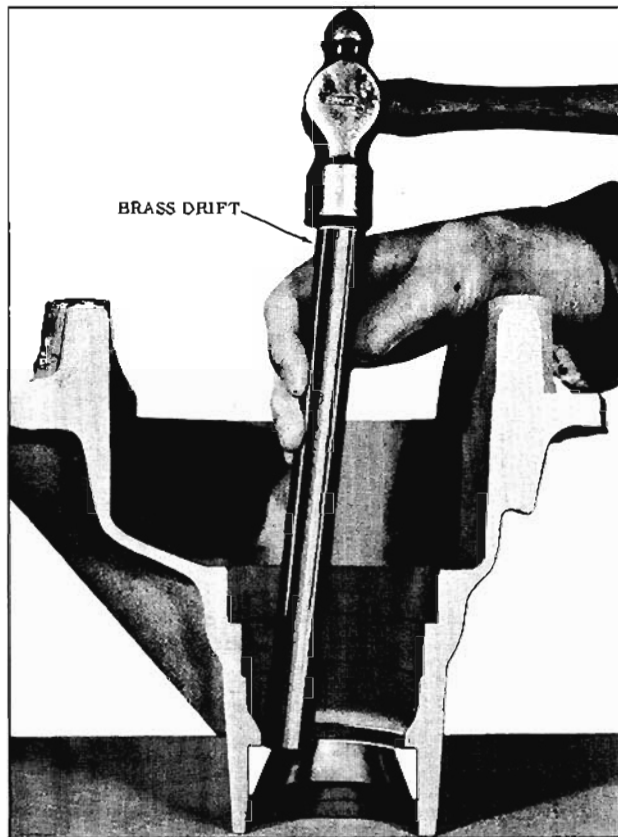

Fig. 10-24 Removing Front Bearing Outer Race
9. Drive the front bearing outer race from carrier. (Fig. 10-24)